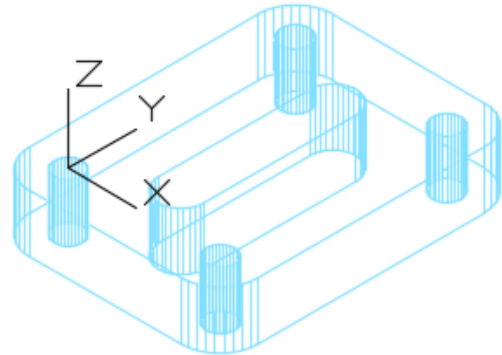

Figure Step 12
Step 12 Turn layer: Pline off and your model should appear as shown in the figure. (Figure Step 12)